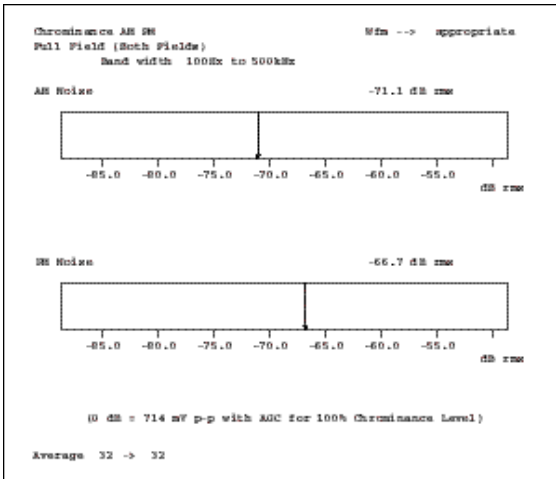

Figure 102. The VM700T Chrominance AM PM Noise display.
The CHROMINANCE AM PM selection in the VM700T MEASURE menu provides information about the noise that affects the chrominance portion of the signal. Since the chrominance signal is sensitive to both the amplitude (AM) and phase (PM) components of noise, separate measurements are provided. A selection of filters is available in this mode as well. Be sure to use the red field test signal for this measurement (see Figure 102). Noise measurements are also available in the AUTO mode.